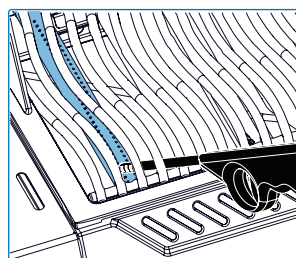

Fig. 11
4. If the pilot and burner will not light in 5 seconds – turn the control knob clockwise to the OFF position. Wait 5 minutes for gas to dissipate. Repeat steps 2 and 3, or see “Alternative Ignition Instructions” below (**Fig. 11, Fig. 12**).
1. Open burner/grill lid (**Fig. 11, Fig. 12**)